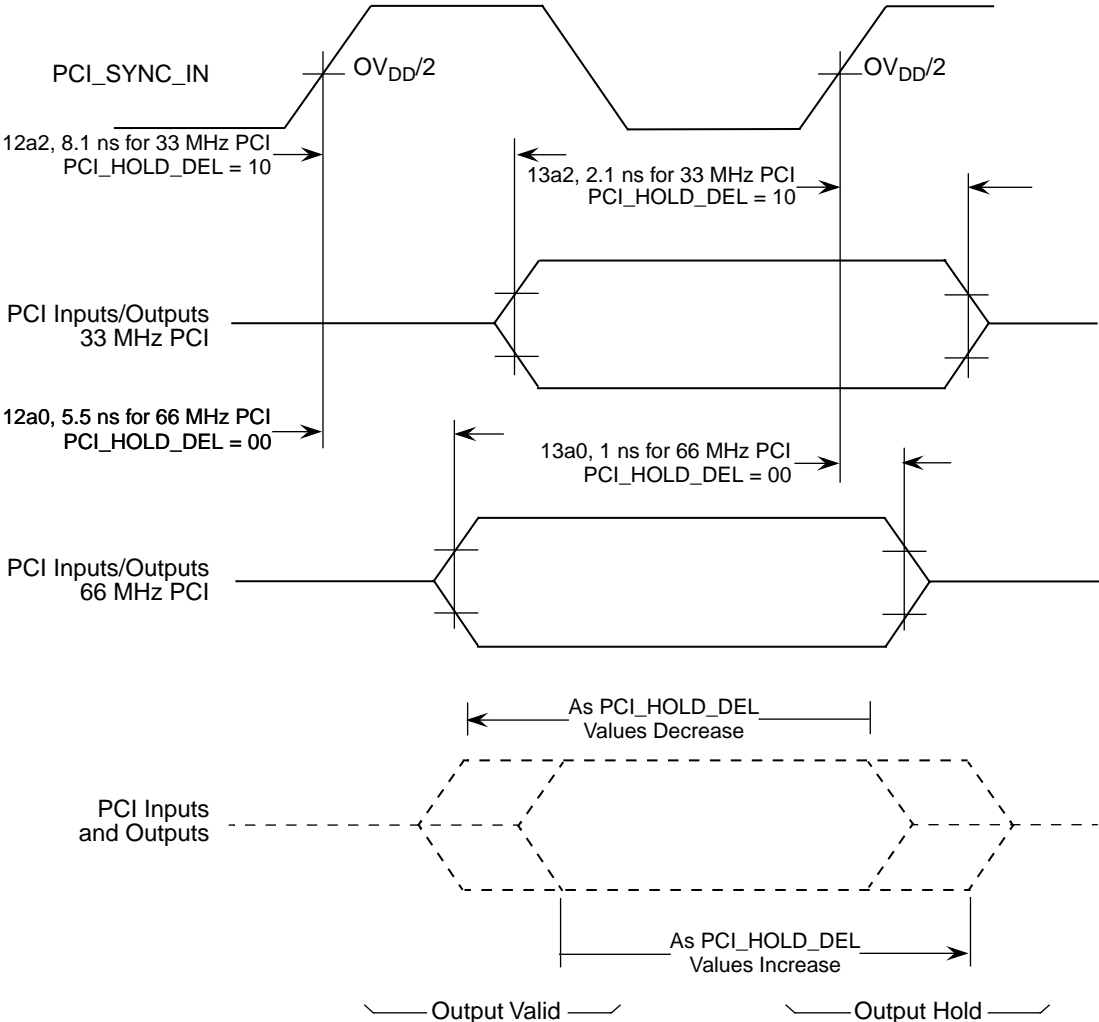

Figure 13. PCI\_HOLD\_DEL Effect on Output Valid and Hold Time
12a	PCI_SYNC_IN to output valid, see Figure 13
13a	Output hold (PCI), see Figure 13
4. In order to meet minimum output hold specifications relative to PCI\_SYNC\_IN for both 33- and 66-MHz PCI systems, the MPC8245 has a programmable output hold delay for PCI signals (the PCI\_SYNC\_IN to output valid timing is also affected). The initial value of the output hold delay is determined by the values on the  $\overline{MCP}$  and CKE reset configuration signals; the values on these two signals are inverted then stored as the initial settings of PCI\_HOLD\_DEL = PMCR2[5:4] (power management configuration register 2 <0x72>), respectively. Since  $\overline{MCP}$  and CKE have internal pull-up resistors, the default value of PCI\_HOLD\_DEL after reset is 0b00. Further output hold delay values are available by programming the PCI\_HOLD\_DEL value of the PMCR2 configuration register. See Figure 13.